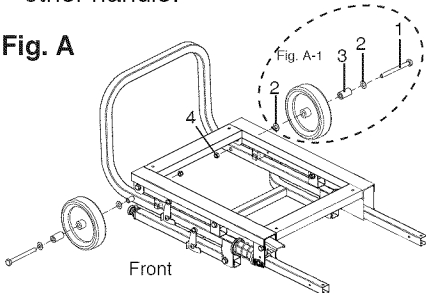

Fig. A-1
1. Attach one roller wheel to the leg using the long hex bolt (1), the two flat washers (2), the sleeve (3) and the lock nut (4), as shown. (Fig. A-1) Tighten the nut (4) using a 17 mm wrench.
3. Insert one handle (5) into the leg tube (6), fasten by bolts (7), two washers (8) and nut (9). Tighten using a 10 mm wrench and screwdriver. (Fig. B)